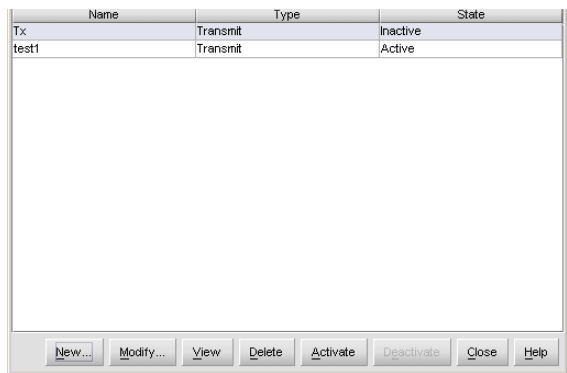

Figure 50 Configure Threshold Alerts dialog box - alerts activated
- 13. At this point, the alerts are not active. To activate the alerts, click the alert information that displays in the **Configure Threshold Alerts** table and click **Activate** as shown in Figure 50.